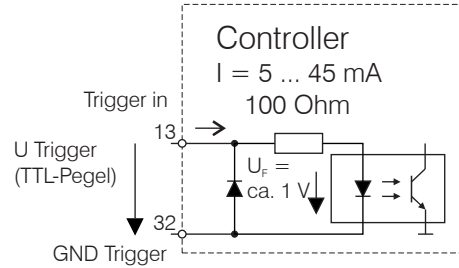

Fig. 30 Trigger input
- by a trigger input, see Fig. 30, or